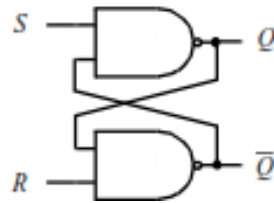

Figure 3.4 NAND based SR flip-flop
- An SR flip-flop can be implemented using a cross-coupled NAND structure as shown in Figure 3.4